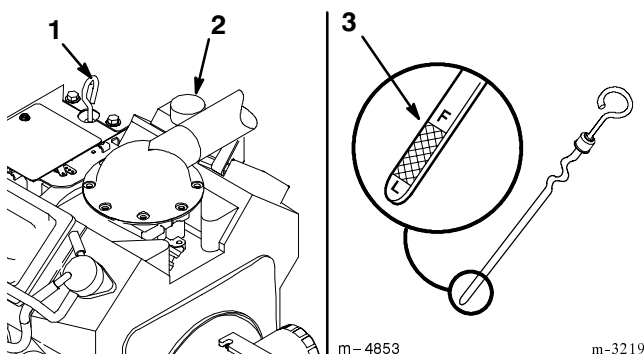

Figure 57
2. Clean around the oil dipstick (Fig. 57) so dirt cannot fall into the filler hole and damage the engine.
3. Pull the oil dipstick and wipe the metal end clean (Fig. 57).
4. Slide the oil dipstick fully into the filler tube (Fig. 57). Pull the dipstick out and look at the metal end. If oil level is low, slowly pour only enough oil into the filler tube to raise the level to the "FULL" mark.
5. Slowly pour approximately 80% of the specified oil, on page 42, into the fill opening (Fig. 57). Now check the oil level; refer to Checking Oil Level, page 43. Slowly add additional oil to bring to "FULL" mark on dipstick.